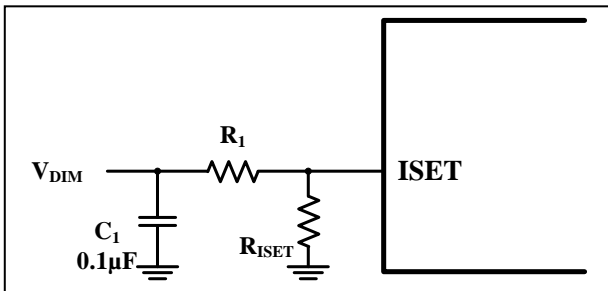

Figure 15 Analog Dimming
The IS31LT3117 can also be dimmed by a voltage source applied directly through an external resistor to ISET pin (as the Figure 15). The  $R_1$  value can be chosen by below Equation (2):